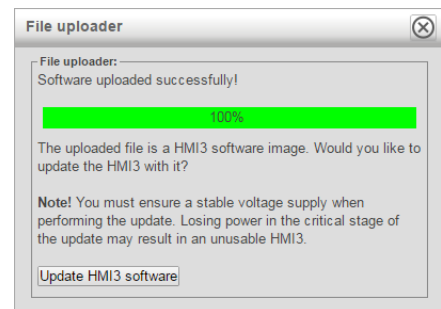

Figure 36: Confirm HMI3 software update
1. If a HMI3 software image was uploaded, you will be presented with the screen in Figure 36. **Ensure stable voltage supply** and click *Update HMI3 software* to begin the flash update procedure.